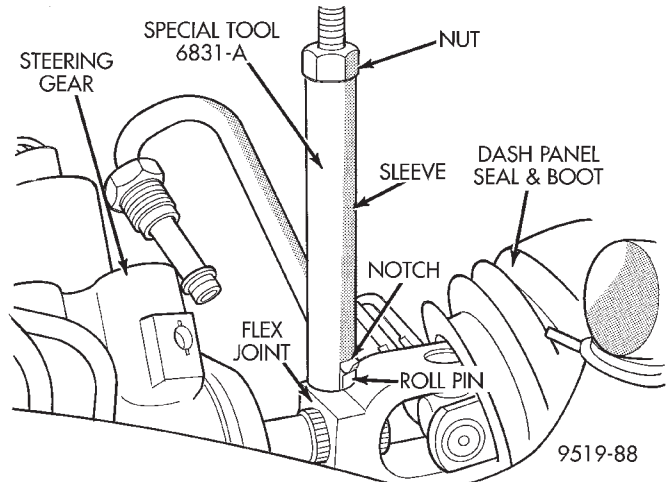

Fig. 14 Steering Coupler Roll Pin Removal
(19) Slide steering gear and intermediate shaft forward into the engine compartment to allow access to the roll pin retaining the flex coupler to the steering gear shaft.
(20) Using roll pin remover, Special Tool 6831A, remove roll pin from flex joint of intermediate shaft (Fig. 14). Roll pin is removed from coupler using following procedure. Remove knurled nut from small end of removal tool. Insert small end of removal tool through center of roll pin and then install and hand tighten knurled nut. Position sleeve of removal tool on flex joint as shown in (Fig. 14). Holding threaded shaft of tool from turning tighten nut (Fig. 14) pulling roll pin out of flex joint.